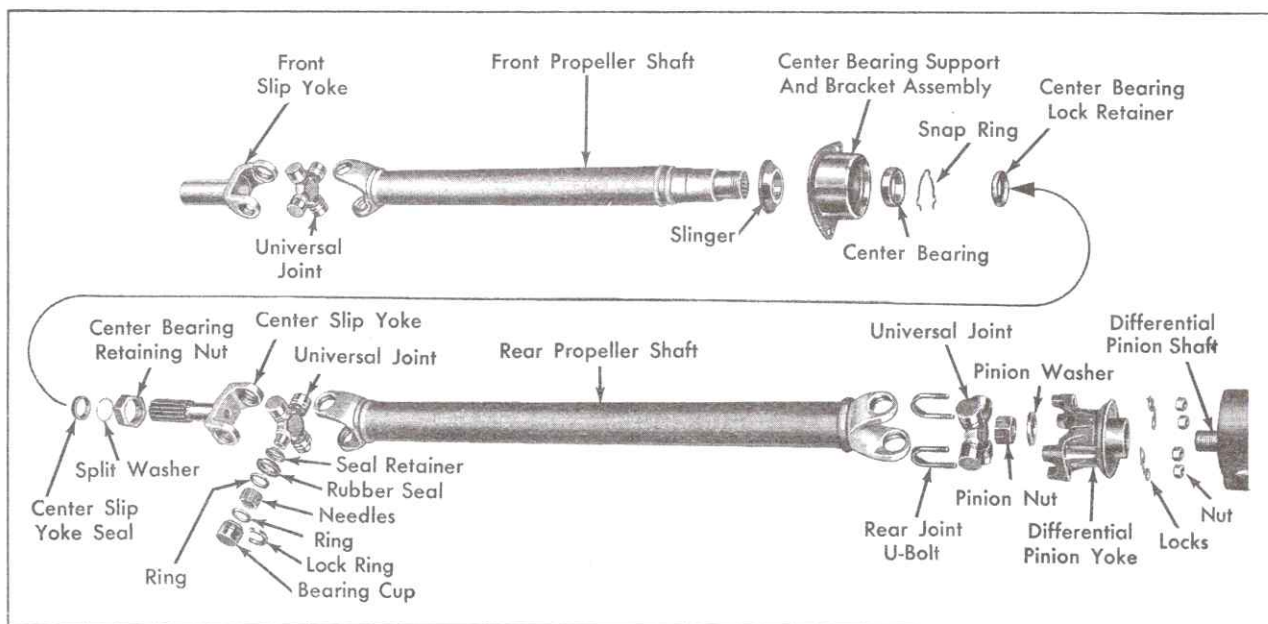

Fig. 4-26 Propeller Shaft Disassembled (698)
2. Pry up center bearing lock retainer, Fig. 4-26.